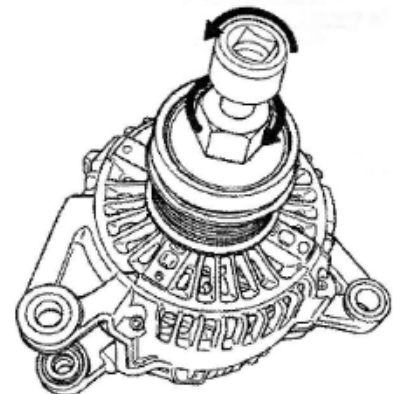

Fig 3
11. Install the new ADP onto alternator shaft by hand and then tighten using the special tool referenced above to **47-62 ft lbs/65-85Nm**. Fig. 3.